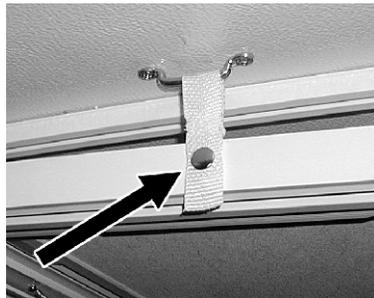
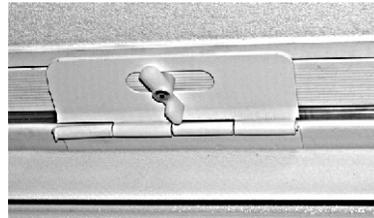
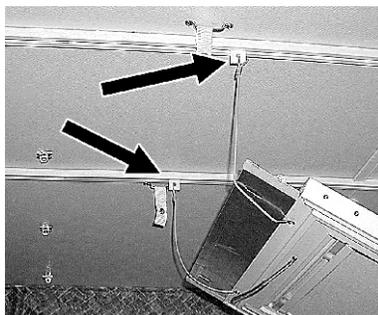

Fig. 14
Fig. 15
Fig. 16
12. Unsnap the ties holding the door to the roof (Fig. 14).
13. Rotate the turn button (Fig. 15) located on the bottom of the door 1/4 turn to unlock it.
14. Swing the door down following the ceiling tracks (Fig. 16) and place the bottom of the door in the threshold opening of the entrance door.
3. Remove the door from the top and bottom tracks. Slide the door to the travel position along the tracks (Fig. 16) located on the ceiling and lock it in place with the turn button (Fig. 15) located on the bottom of the door by turning 1/4 turn. Snap the ties holding the door to the roof (Fig. 14).